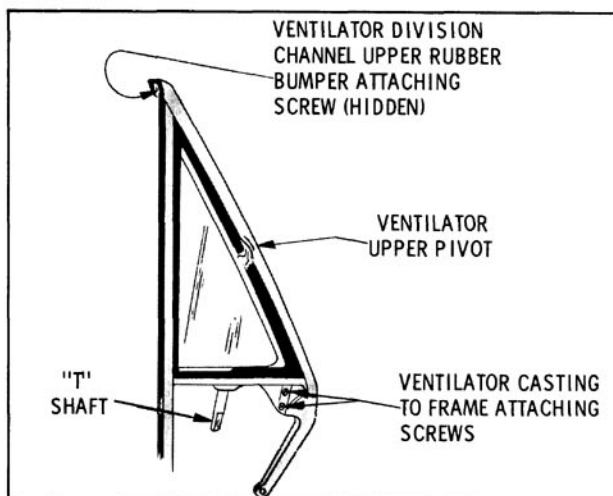

Fig. 16-41 Ventilator Assembly Weatherstrip
- Remove ventilator glass and sash channel from ventilator frame by opening glass approximately 90° and pushing glass downward slightly to disengage glass unit from ventilator frame at upper pivot point and then upward to disengage lower tee shaft from frame. (Fig. 16-41)
- Remove two attaching screws securing ventilator casting to frame and separate ventilator casting from frame so that the ventilator weatherstrip can be removed. (Fig. 16-41)
- Remove ventilator division channel lower adjusting stud and nut. (Fig. 16-41)